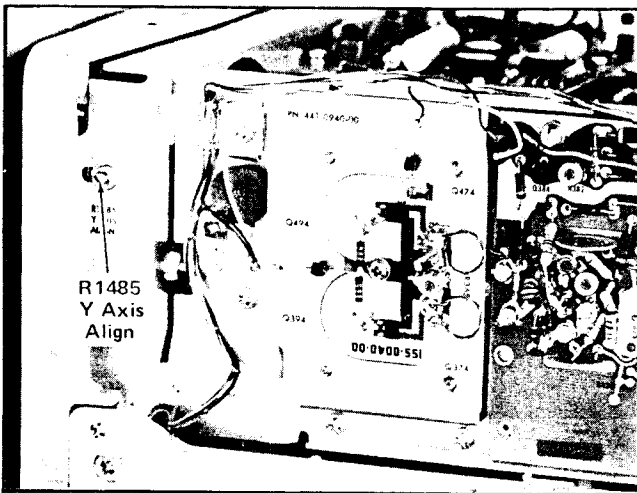

Fig. 5-6. Location of Y AXIS Alignment adjustment (left side).
- b. ADJUST—Y Axis Align adjustment, R1485 (see Fig. 5-6) to align the markers with the center vertical line.